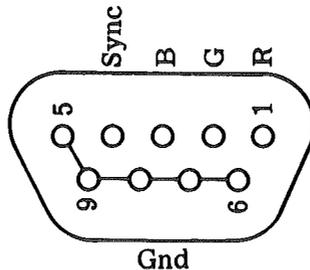

FIG 13-1 RGB Output Pinout
- (1) Monochrome. This output should be used with high resolution monochrome monitors. The video output does not contain the PAL color burst signal, which will appear as noise and cause video degradation on a high quality monochrome monitor. This output is located at the rear panel of the computer, and is labelled as 'B+W/PAL'. For use with PAL monitors, please refer to Chapter 7 for configuring this output to a PAL composite signal.
- (2) PAL r.f. This output provides a modulated PAL color signal which can be directly connected to a home TV. This output is available on the rear panel of the computer, labelled as 'HOME TV'.
- (3) RGB Output. This output provides analog Red, Green and Blue (RGB) and a composite synchronization signal. When connected to a RGB monitor, this output provides a better color display than the modulated PAL output. The output is available on the rear panel of the computer, labelled as 'RGB'. The pinout of the RGB connector is as shown in FIG 13-1.